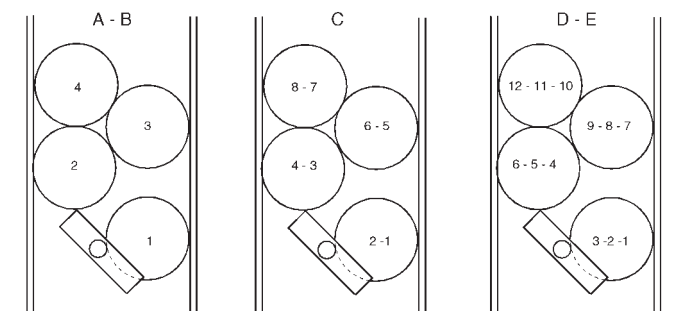

FIG. 1
- first load the column that bears on the lower portion of the rotor (see Fig. 1);